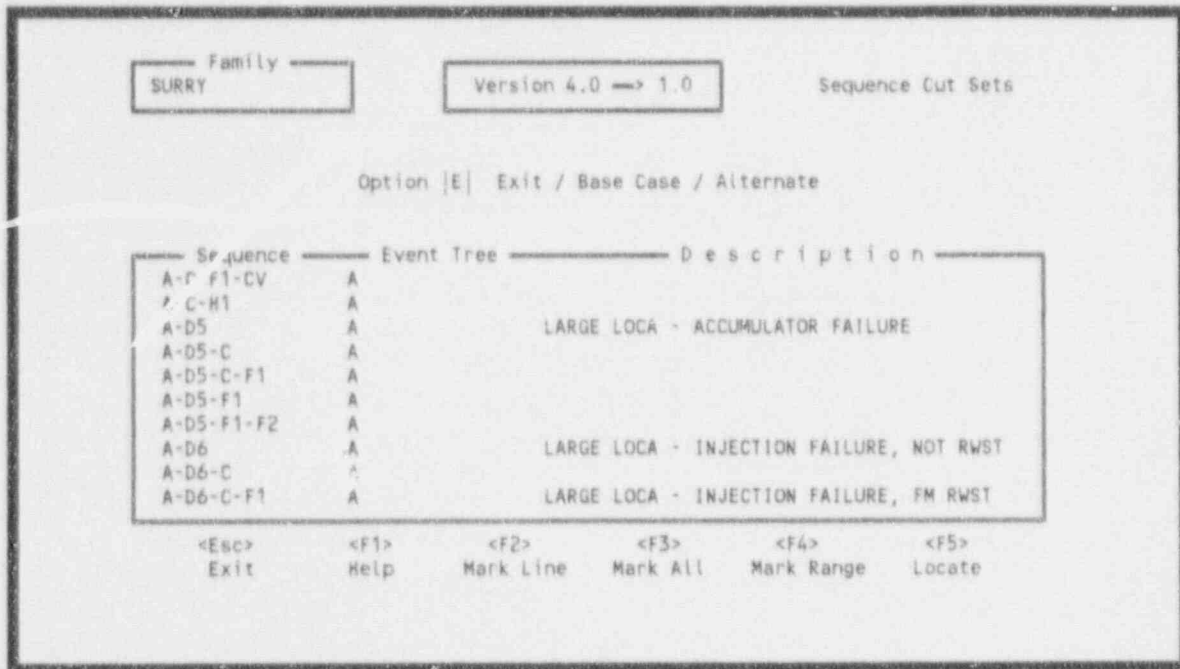

Figure 269. Sequence cut sets screen.
11.5.3.4 Sequence Cut Sets. This option allows you to convert sequence cut sets generated by IRRAS Version 4.0 to Version 1.0 ".CUT" files. To invoke this option, type an <S> in the option field, or highlight "Seq. Cut Sets" and type <Enter> or <=>. Figure 269 will be displayed listing all the sequences in the current file. On this screen, you have three options: Exit, Base Case, or Alternate.